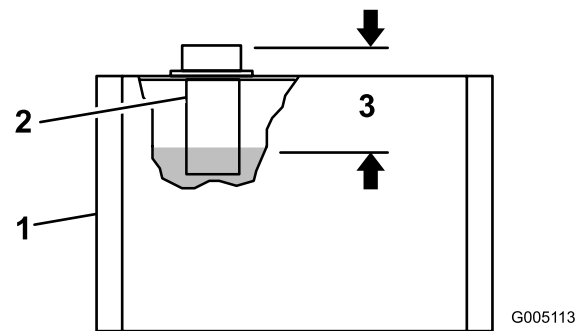

Figure 21
2. Remove the cap from the top of the reservoir and check the fluid level. The fluid should be approximately 3-1/2 in. (89 mm) below the top of the fill hole (Figure 21).